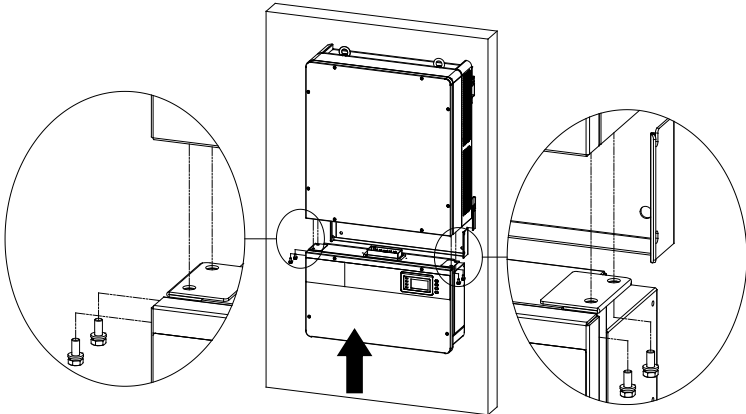

Figure 2.11 - Wiring Box Installation
③ Connect the wiring box to the main section, using M6x16 screws (4pcs) to secure the wiring box. (see Figure 2.11)